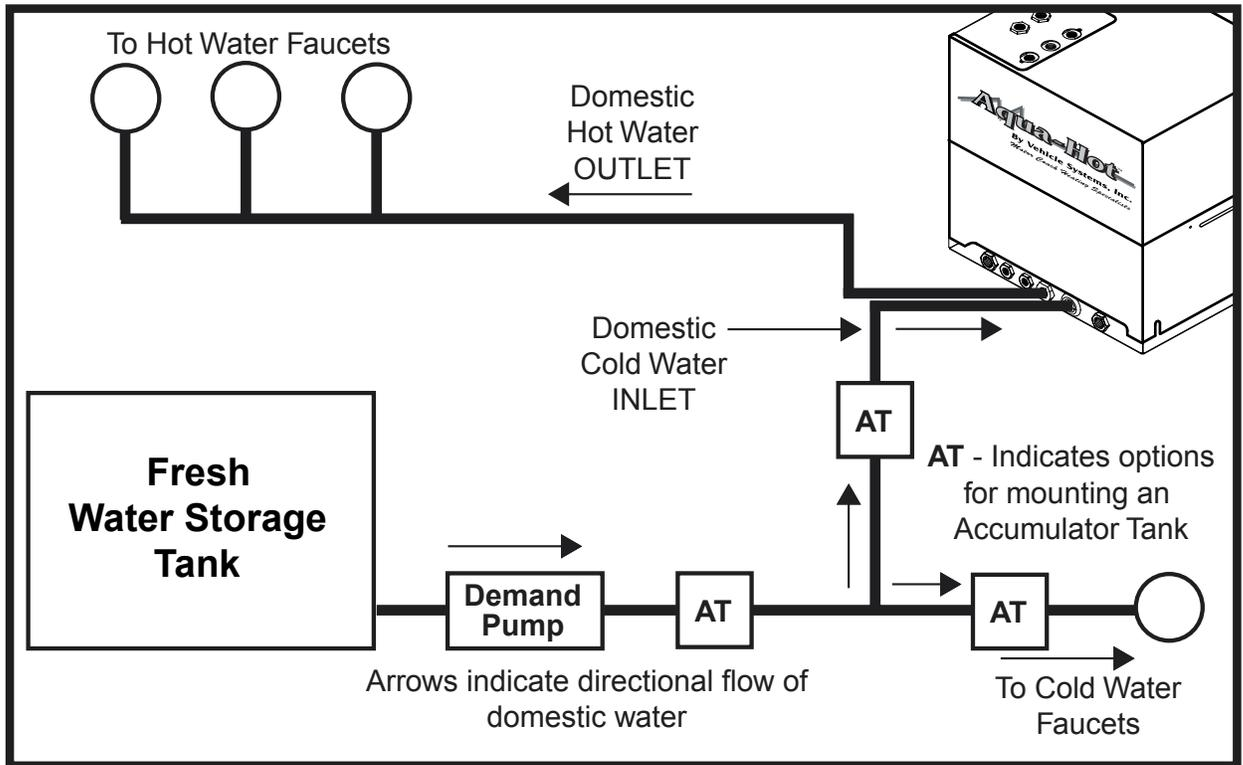

Figure 20
NOTE: Please note that it may be necessary to utilize an Accumulator Tank within the Domestic Water System; reference Figure 20. Although the Aqua-Hot is equipped with a Pressure-Relief Valve, the utilization of an Accumulator Tank will help prevent excessive “weeping” of the aforementioned valve, if applicable. Manufacturers of Pressure-Relief Valves indicate that excessive weeping of these valves will cause the “seat” in the valve to deteriorate, and, in turn, the valve will fail prematurely. For additional information regarding Accumulator Tanks, please be sure to reference the Recreational Vehicle Industry Association’s (RVIA) technical publication titled “Recreational Vehicle Plumbing Systems.” To obtain a copy of this particular publication, please contact RVIA at (703) 620-6003 or visit them online at www.rvia.org.